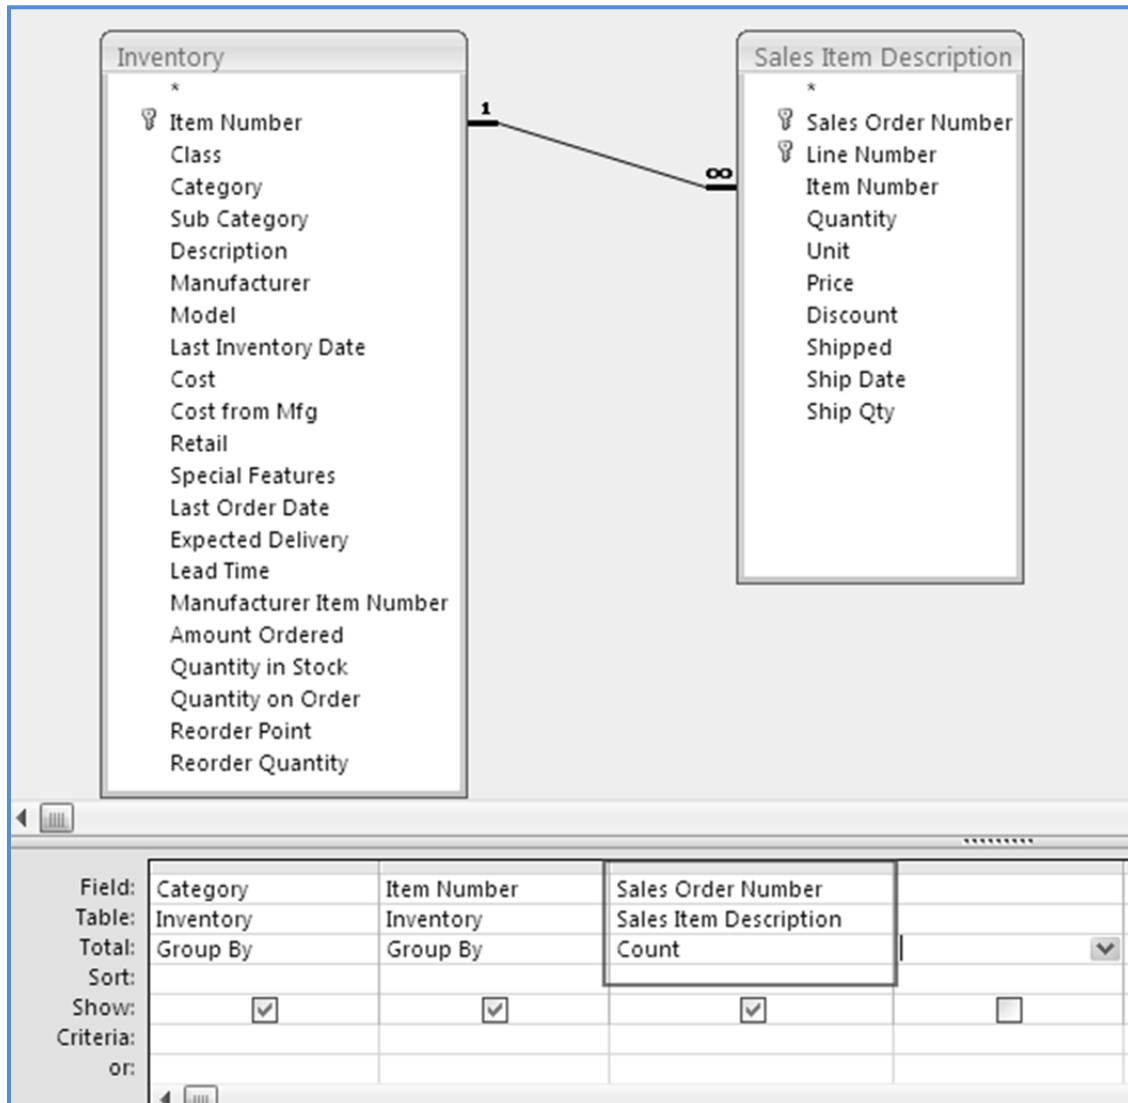

Fig. 1.2.32: Set the Totals Function
6. In the column *Sales Order Number*, change the **Group By** function to **Count**, as shown in Fig. 1.2.32.